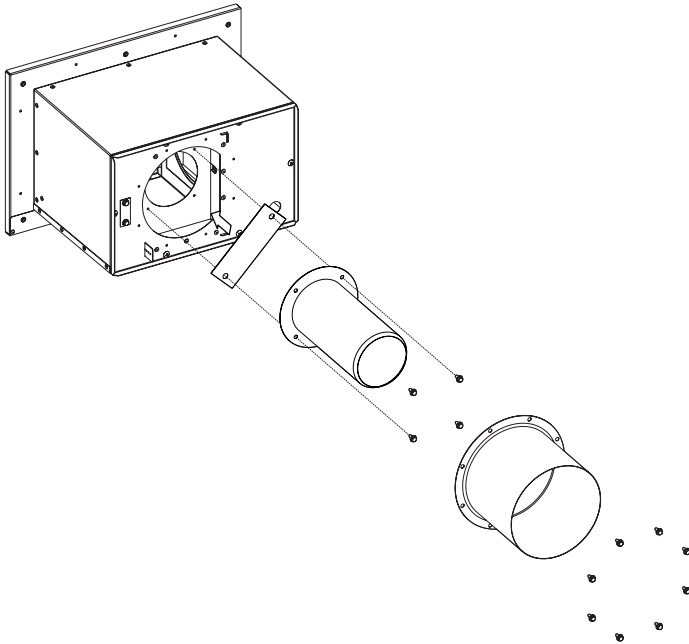

Figure 2
1. Attach the flue restrictor under the smaller pipe from the Dura-Vent adapter with the 4 #10 X 1/2 inch screws. If the vent run is in the white section of the blender door setting chart, attach the smaller pipe from the Dura-Vent adaptor without the restrictor using 4 #10 x 1/2 inch screws as shown in **Figure 2**.